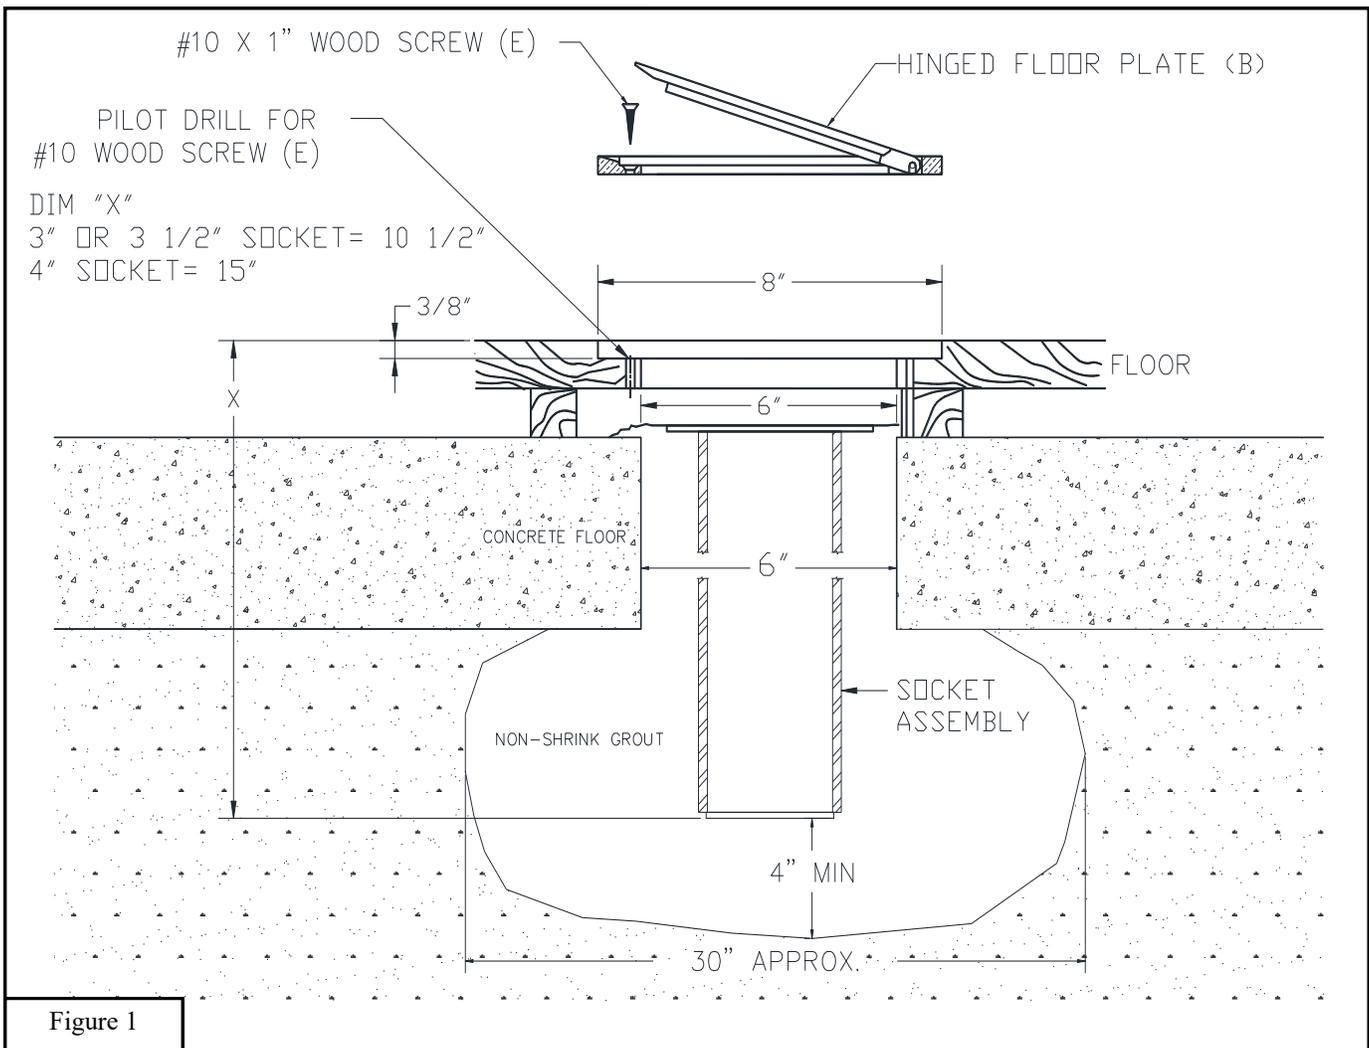

Figure 1
7. If excess gaps exist between the *Hinged Floor Plate (B)* and the “step bore” in the floor fill with an appropriate wood putty as needed when installation is complete.
8. Excavate the soil, sand and gravel below the concrete to an approximate diameter of 30”. The depth of the hole should be approximately 20” from the top surface of the wood floor. See Figure 1.